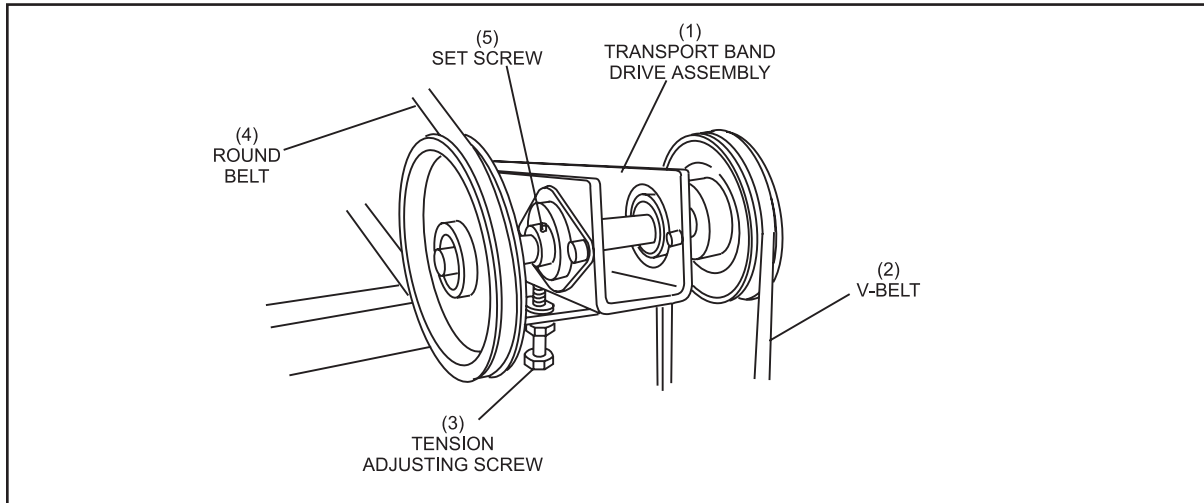

Figure 5-5. Tension Adjustment.
2. Loosen the tension adjusting screw. Refer to *Figure 5-5*.